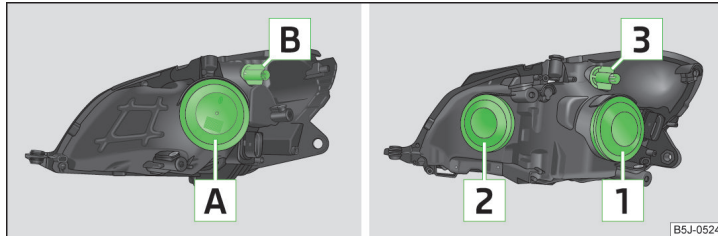

Fig. 161 Bulb arrangement: Halogen headlights/halogen projector headlights
Remove the protective cap **A** » Fig. 161 on page 179.
- Remove the protective cap **1** » Fig. 161 on page 179.
- Remove the protective cap **[2]** » Fig. 161 on page 179.
- Remove the bulb holder **[B]** » Fig. 161 on page 179 or the bulb holder **[3]** to the stop in an **anti-clockwise** direction and remove with the bulb for the turn signal.
- Remove the protective cap **[A]** » Fig. 161 on page 179 or **[2]**.